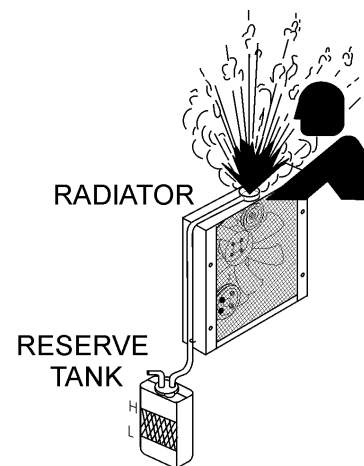

Figure 40. Radiator/Reserve Tank
2. Check coolant in the reserve tank daily (Figure 40). Make sure the level is between the FULL (H) and LOW (L) markings. Fill reserve tank with a mixture of 50/50 antifreeze/water.